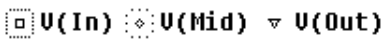

Figure 12 Trace legend with V(Mid) symbol outlined.
- a Right-click the trace legend part (diamond) for V(Mid) to associate the second cursor with the Mid waveform. The crosshair pattern for the second cursor outlines the V(Mid) trace part as shown in Figure 12.